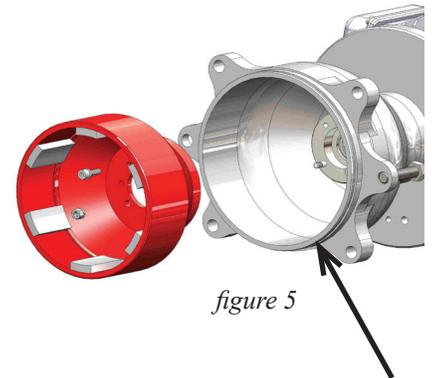

figure 5
11. Using the threaded studs in the shaft adapter as a guide, slide the magnet hub onto the shaft adapter. The magnet hub and shaft adapter are held in close tolerance to one another. Use two M8-1.25 hex head bolts to draw the hub onto the adapter as necessary. *See figure 5.* Avoid hitting the outer edge of the magnet hub as impact can damage the glue bond between the magnet and the hub.
1. Place the front vapor protection o-ring (Item 24) into the groove on the motor adapter. *See arrow on figure 5.*